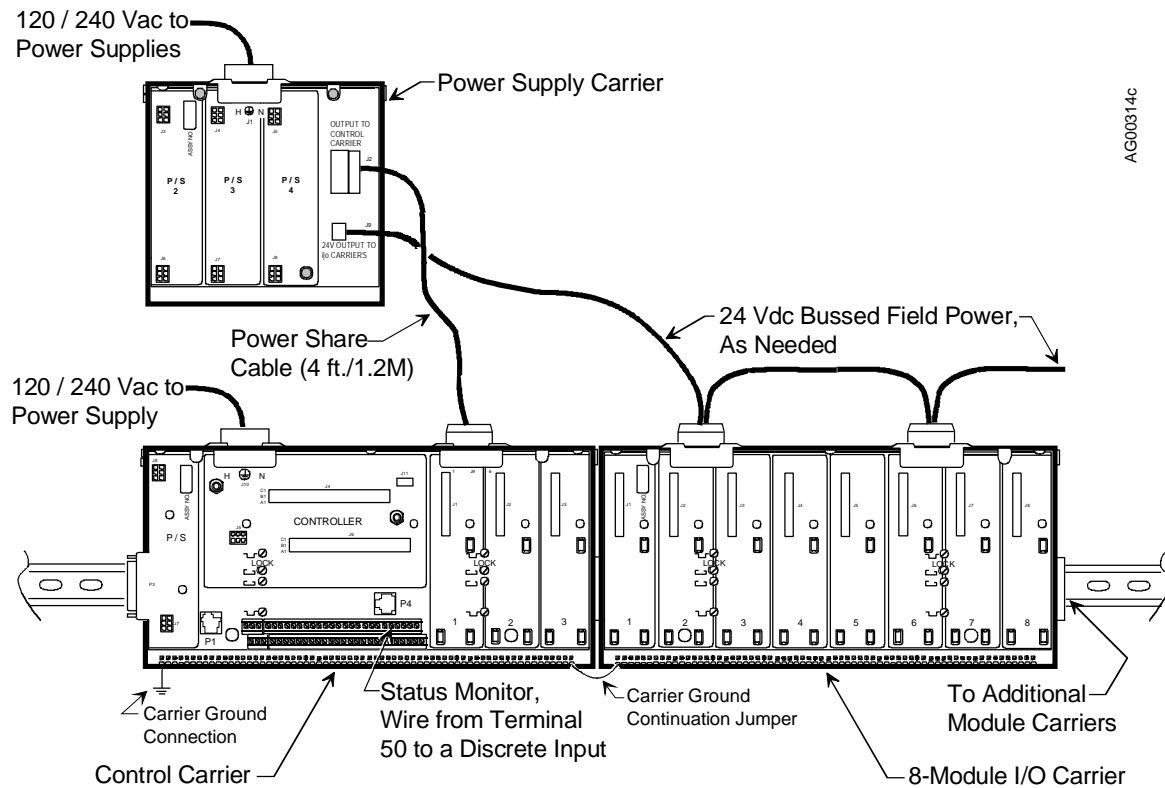

FIGURE 8-9 Power Supply Carrier and Cabling
This section describes installation of the i|power™ power supply carrier. Install the carrier on a flat panel at a 353R network node (i.e. control carrier). Figure 8-9 shows the power supply carrier and typical cabling. The carrier is not intended for DIN rail mounting.
1. Select a mounting location for the power supply carrier that is near the control carrier. Refer to Figure 8-9 for carrier interconnections. Power share cable length is 4 ft/1.2M. Be sure that it will interconnect the power supply and control carriers.